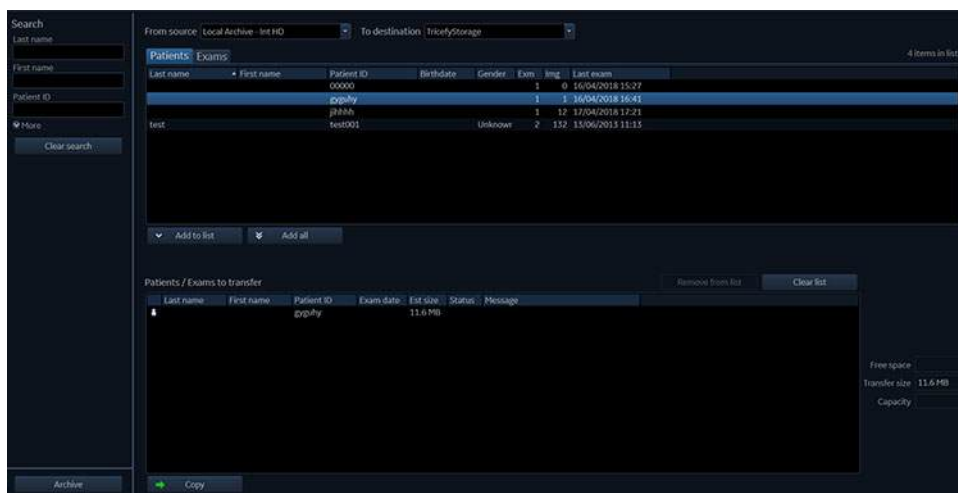

Figure 10-49. The Transfer screen
The *Transfer* screen is displayed (Figure 10-49)
4. Press **Copy** (Figure 10-49). The exam data is sent to the Tricefy website (https://tricefy4.com/users/sign_in).